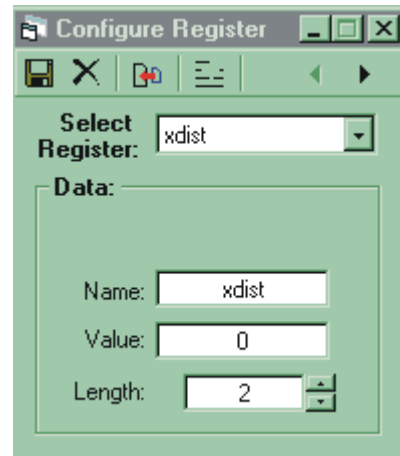

Figure 4.32: Screen 1 X Distance Register Setup
- 2] In the Configure Register dialog (Figure 4.32), type “xdist” in the “Name” box.